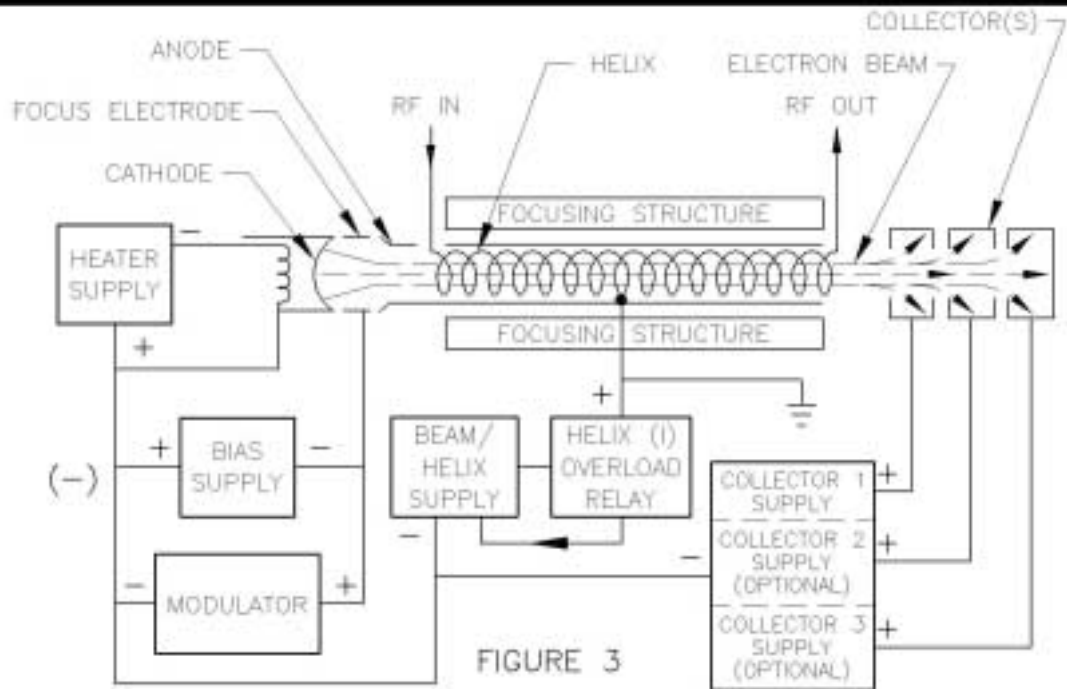

FIGURE 3
- Figure 3 - CW/Pulsed: Control electrode - (focus electrode); single or multiple collector(s).